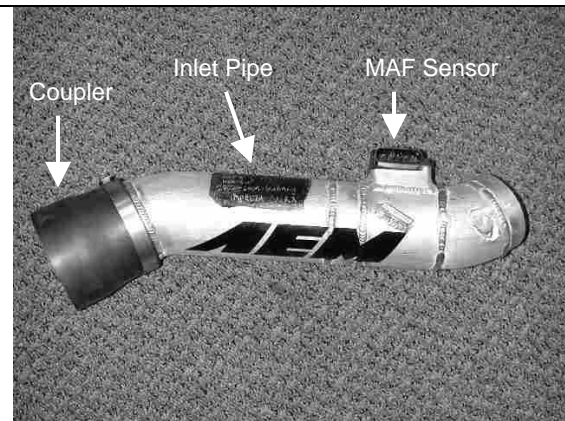

Fig. 14
- l) Install the reducer hose on the end farther from the MAF sensor using a 2.75" hose clamp. The end of the pipe should not protrude past the step inside of the reducer hose. (**Fig. 14**)